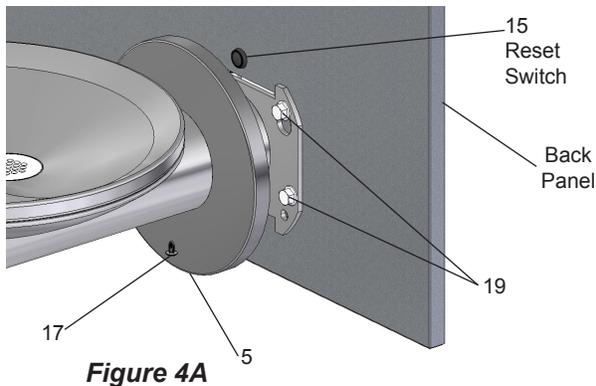

Figure 4A
8. **Install reset switch** for bottle filler (Fig 4A). Connect the switch wire to the extension wire on the back of the bottle filler. Wrap up the excess cord.